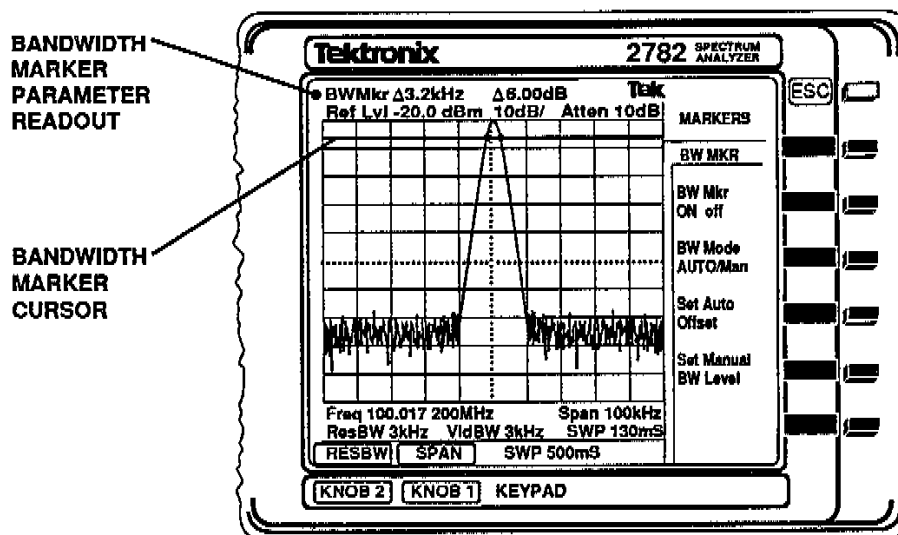

Figure 2-6. Bandwidth markers.
- m. Select BW Mkr Menu, and a horizontal cursor line with two bright dots appears on the screen. The dots show where the cursor line crosses the waveform on either side of the reference marker, and the measurement shown in the Mkr readout line is the frequency difference between the two dots; see Figure 2-6.